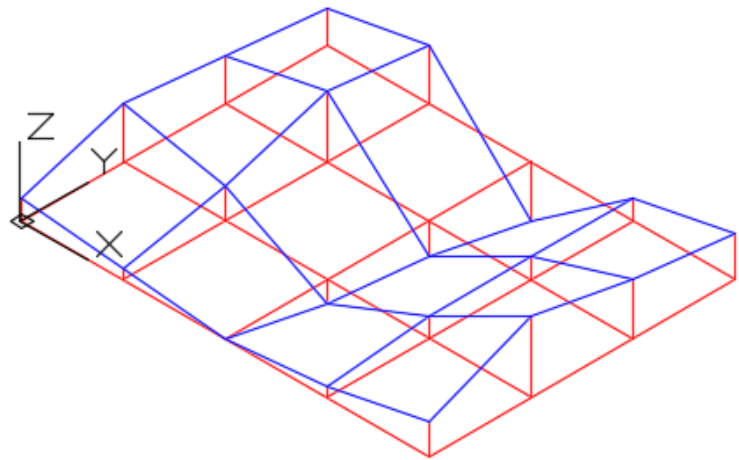

Figure Step 7
Step 7 Draw 3D polylines between all the Z coordinates in the X direction until you complete the grid. (Figure Step 7)